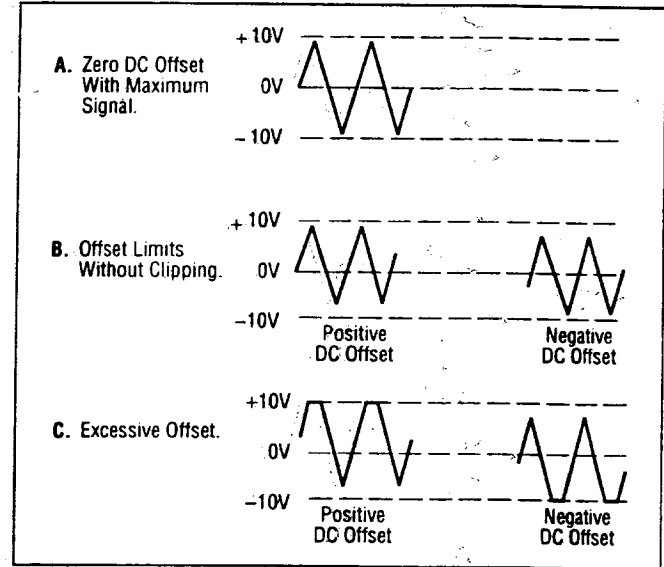

Figure 3. Use of DC OFFSET Control
6. Adjust the amplitude of the output as desired using the **OUTPUT LEVEL** control (4). Rotation of this control varies the amplitude from maximum to 20 db below maximum. An additional attenuation of -20db is available by engaging the **-20dB** switch (11). The attenuation factors can be combined for a total of -40db. The maximum signal level is 10 V p-p (into 50 Ω).
7. A superimposed DC component can be added to the output signal by engaging the **DC OFFSET** switch (14) to enable operation of the **DC OFFSET** control (5). Rotation of this control adds a positive or negative DC component to the output signal. The DC component introduced is independent of the **OUTPUT LEVEL** control and can be varied by ± 10 volts open circuited or ± 5 volts into 50Ω . The DC Offset does not affect the **TTL/CMOS** output jack. The effect of DC OFFSET is shown in Fig. 3.
- Remember that the output signal swing of the generator is limited to ± 10 volts open circuited or ± 5 volts into 50Ω , and applies to the combined peak-to-peak signal and DC offset. Clipping occurs slightly above these levels. Fig. 3 illustrates the various operating conditions encountered when using the DC offset. If the desired output signal is large or if a large DC offset is required, an oscilloscope should be used to make sure that the desired signal is obtained without undesirable clipping.